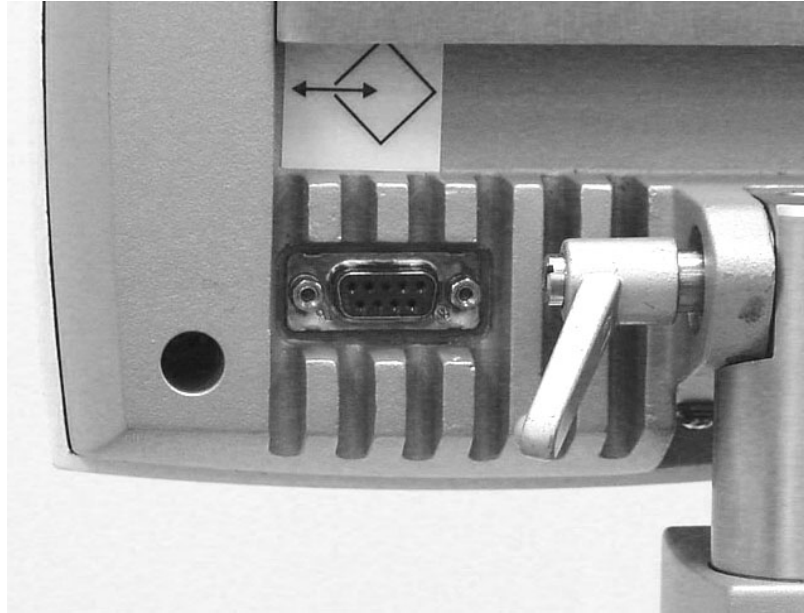

Figure 6 RS-232 Connector – Rear Display Head
9. Connect the HMIA RS232 connector, labelled **RS232**, to the mating connector on the Rear of the Display Housing. (See Figure 6)